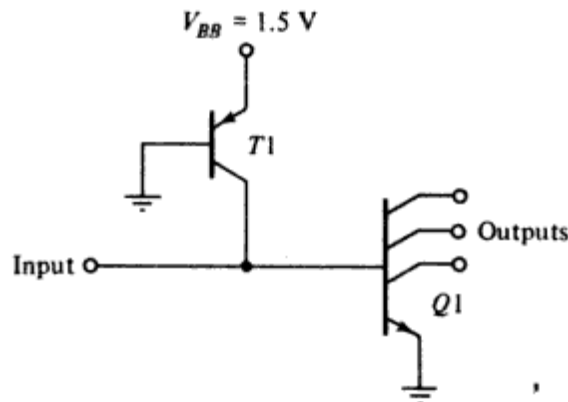

Fig.10 I²L basic gate
- The schematic diagram of the basic I²L gate is shown in figure.10. It has an npn transistor, Q1, with multiple collectors for the output.